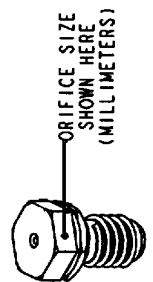

FIGURE 3
3. Invert the cap and screw it back into place. See figure 3.
NOTE: See figure 3 for natural gas orifice size and information.
4. Remove oven burner by removing one screw in front of burner and two screws at rear next to ignitor. Raise rear part of burner up till it clears the opening in the bake chamber, then gently lay the burner to the right side in the bake chamber. It is not necessary to unplug or remove the ignitor from the burner. See figure 3.